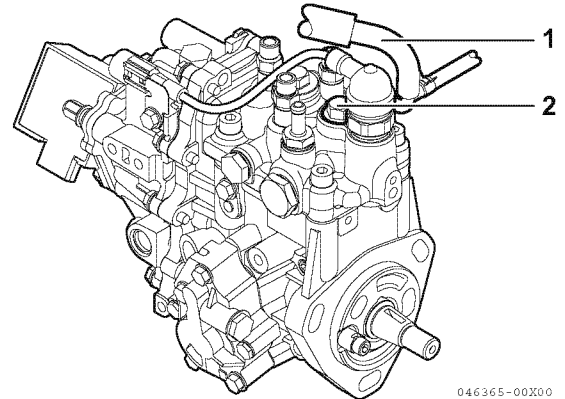

Figure 7-34
2. Clamp shut the fuel injection pump fuel return hose leading to fuel filter (Figure 7-34, (1)).
3. Remove the forward fuel injection pump plunger plug (Figure 7-34, (2)) on the top of the fuel injection pump.